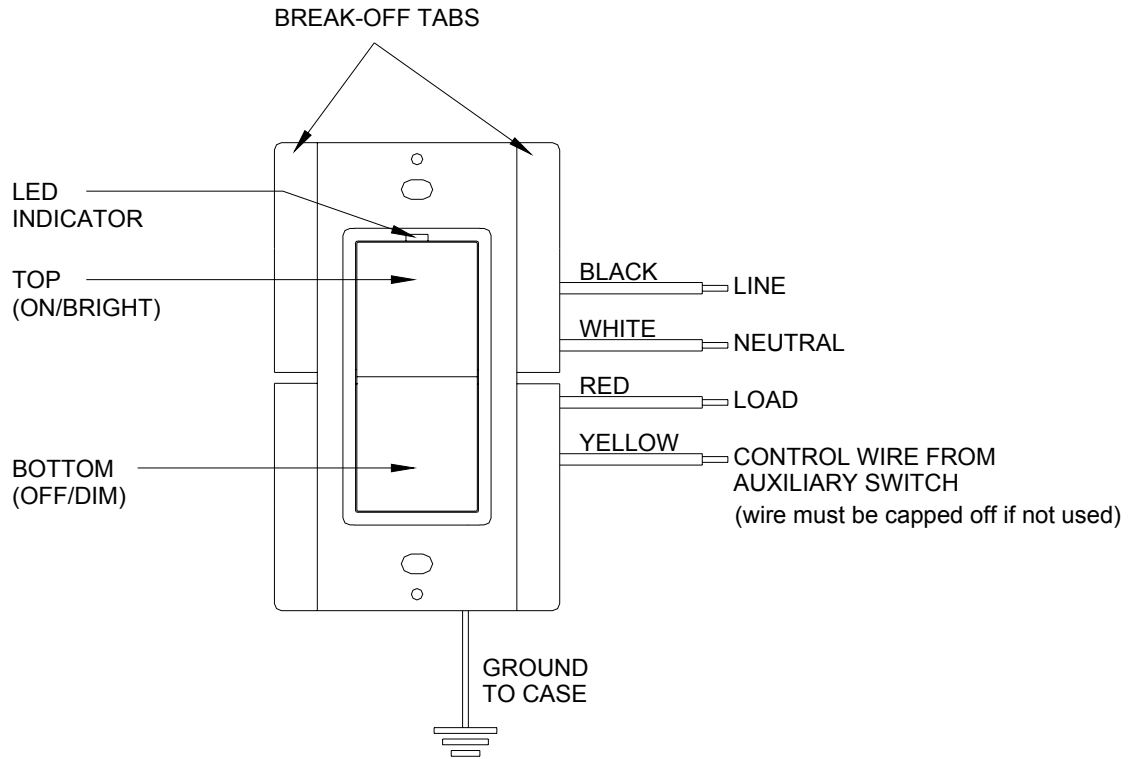

Figure 1: 55A00-1 HAI UPB™ Wall Switch Dimmer
The HAI UPB™ Wall Switch Dimmer (Figure 1) is a high quality light-switch/dimmer that not only allows for local rocker switch control of a lighting load but also incorporates UPB™ two-way powerline communication technology that gives it the ability to be remotely controlled by other UPB™ compatible controllers. The HAI UPB™ Wall Switch is highly configurable to allow for behaviors customized to each individual's desires. The HAI UPB™ Wall Switch is capable of storing up to 16 preset light levels and fade rates to create powerful lighting scenes. The HAI UPB™ Wall Switch is also capable of transmitting UPB™ messages (including a current light level report) when rocker switch events occur. The HAI UPB™ Wall Switch is capable of being set to a non-dimming mode in order to control such loads as fluorescent lights.
1. Refer to Figures 1 and 2 to determine the wire colors of the hook-up.
For a proper fit in a multiple gang installation, it may be necessary to remove one or both sides (break-off tabs) from the mounting plate (see Figure 1). When tabs are removed, the overall rating of the device must be reduced in accordance with the following chart: